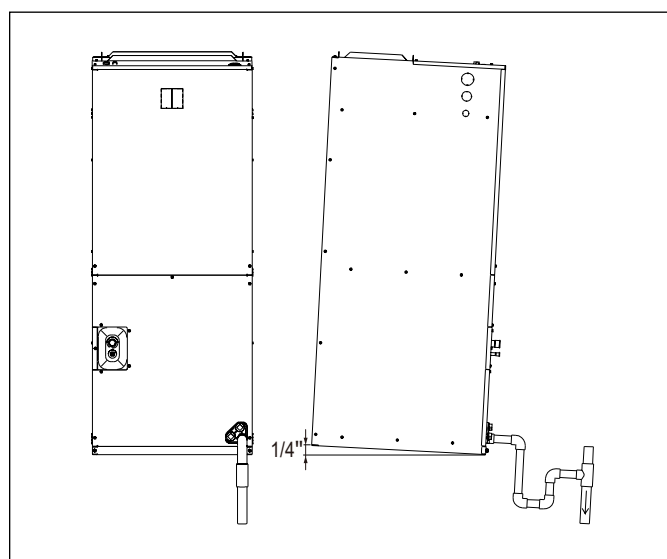

Figure 19 Vertical upflow view
- Make sure unit is leveled or pitched slightly toward primary drain connection so that water will drain completely from the pan. Up to an additional 1/4" rise over the width or depth of the unit is allowed to create additional sloping towards the drain. Unit must be positioned between level and 1/4" rise, sloping toward the drain connections. See figures 19 to 22 for reference.